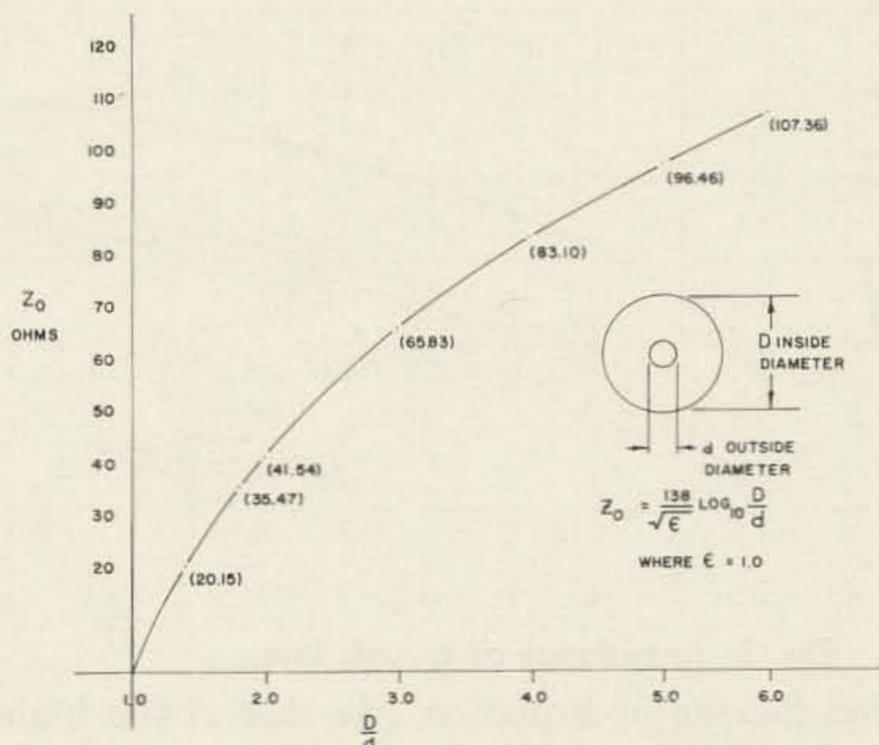

Fig. 2. Impedance of coaxial lines.
where D is the inside diameter of the outer coaxial member and d is the outside diameter of the inner coaxial member and ϵ is the dielectric constant of the medium between the members, air = 1.0. Fig. 2 is a plot of Z_0 versus the ratio D/d .
Step 6—For a Z_0 of 77 ohms the ratio of diameters can be determined from Fig. 2 and is 3.66. This means that if the inner conductor is one inch in diameter, the outer conductor must be 3.66 times one inch or 3.66 inches.